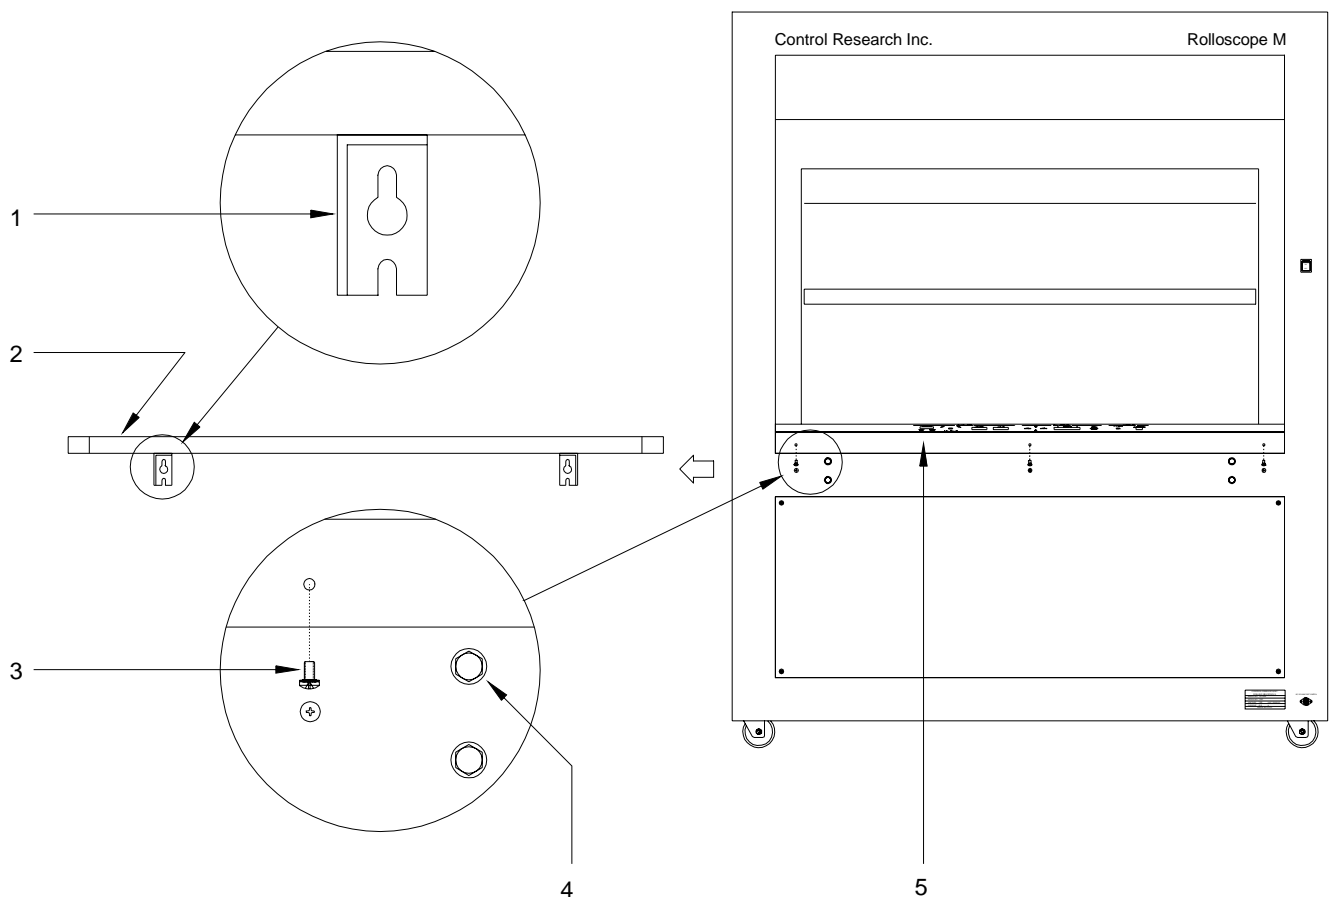

Figure 5-9-2. Removing Table and Control Panel
5.9.1 Removing Table and Control Panel, see Figure 5-9-2